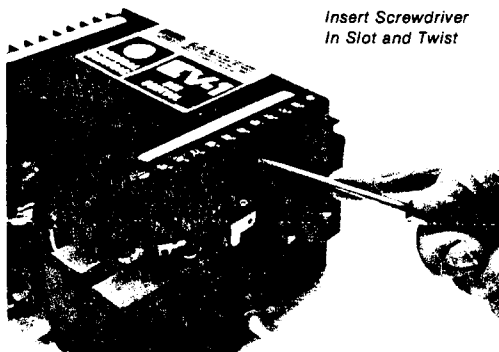

Fig. 10.
- b. Jack out the right- and left-hand terminal board, using a screwdriver in the slots, (leaving the wires intact) as shown in Fig. 10.